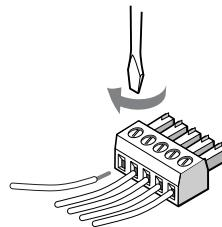

Figure 2-14 — Fastening captive screws
2. Attach the audio cable to the audio cable connector (Extron part number 10-319-10). Fasten the captive screws inside the audio cable connector as shown in figure 2-14.